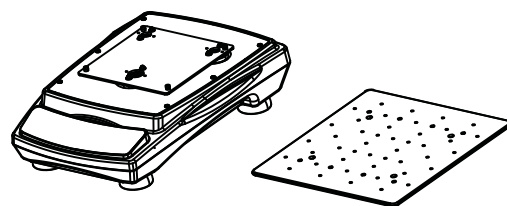

figure 1
1. Remove platform as shown in the figure 1.